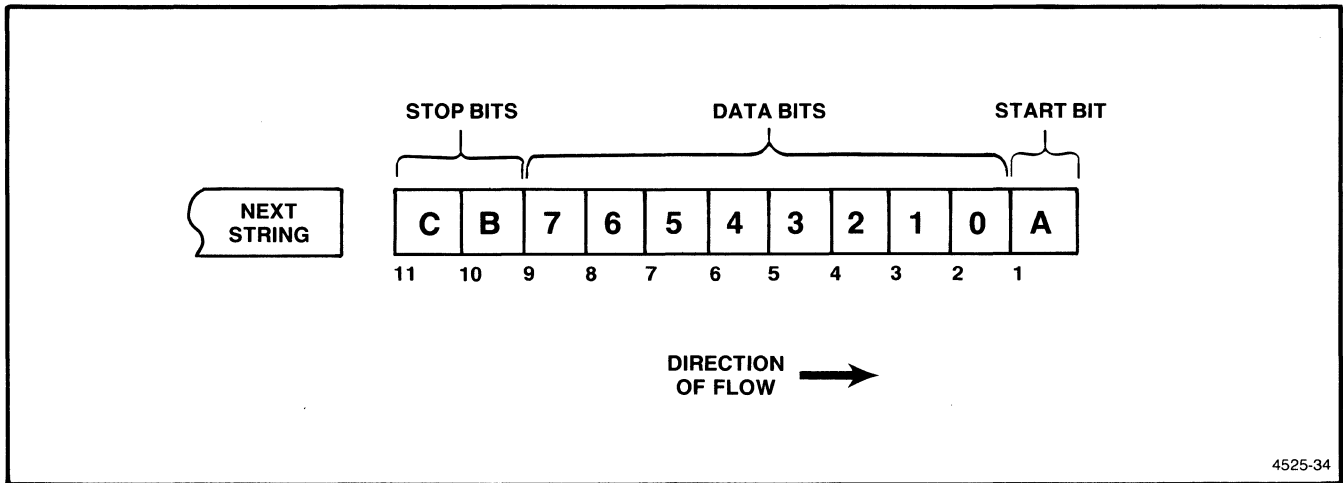

Figure 4-20. Serial Character Format.
The keyboard operates through a full duplex serial interface. The data protocol is 1200 baud asynchronous. The timing and data transmission is typical of a standard DUART, and is a serial data stream as depicted in Figure 4-20.
5. The controller sends a serial character code to the Terminal Control board over the KDO-1 output line. See Figure 4-20, again.